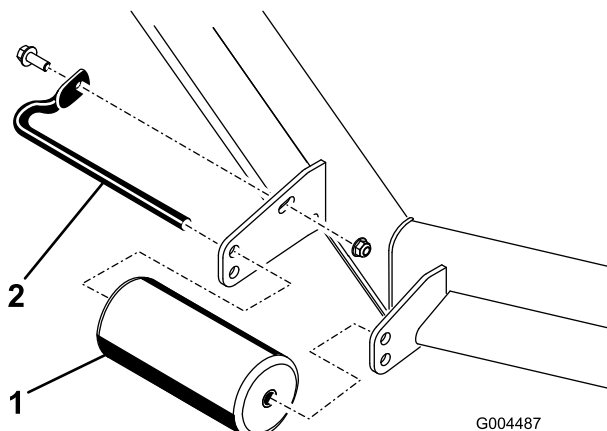

Figure 24
4. Remove the fasteners securing each roller on your mower deck, and move the rollers up or down as desired; refer to Figure 24 through Figure 28 as applicable for your mower.